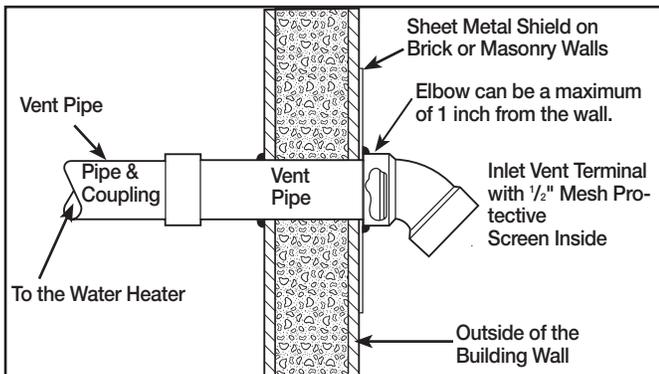

Figure 7 – Typical Horizontal Vent Installation
3. **DO NOT** terminate vent pipe directly on brick or masonry surfaces. Use a rust-resistant sheet metal backing plate behind vent. (See Figure 7.)
HORIZONTAL VENT INSTALLATION – Once the vent terminal location has been determined, make a hole through the exterior wall to accommodate the vent pipe. The vent pipe must exit the exterior wall horizontally only (See Figure 7).
Insert a small length of vent pipe through the wall, and connect the coupling as shown in Figure 7. Connect the vent terminal as shown to the vent pipe on the exterior of the building. Seal any opening around the vent pipe or fittings with mortar or silicone caulk as shown in Figure 7.